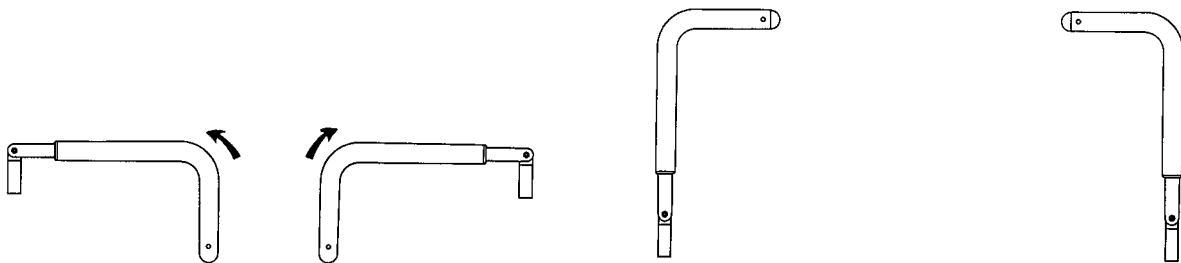

Figure 10 – Positioning the head end push handles
1. Pivot the handles up from the end of the product (Figure 10).